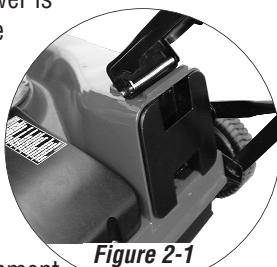
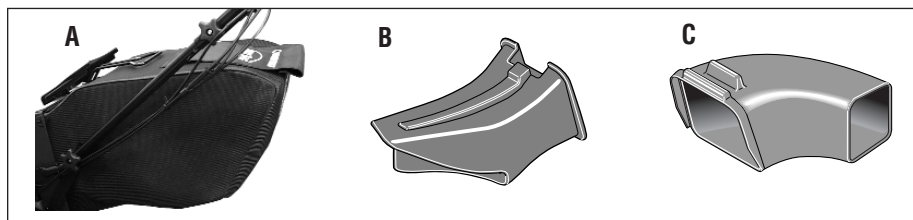

Figure 2-1
Figure 2-2: Attachments
NOTE: The mower is shipped with the Mulching Plug (B, Figure 2-2) installed in the discharge outlet (Figure 2-1).
- The Grass Catcher attachment (A, Figure 2-2).
- Side-Discharge Chute attachment (C, Figure 2-2).
NOTE: The mower is shipped in Mulching Mode. This means that the Mulching Plug is installed into the discharge outlet (Figure 2-1) and that the mower is ready to mulch grass clippings.